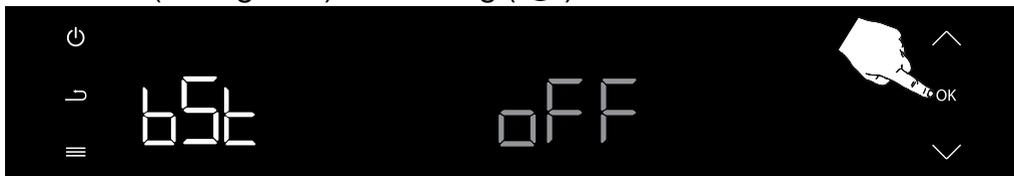

Figure 105
Press the confirm button (OK) once to confirm the OFF location selection. (see fig. 105) Preheating (⬆️) is then deactivated